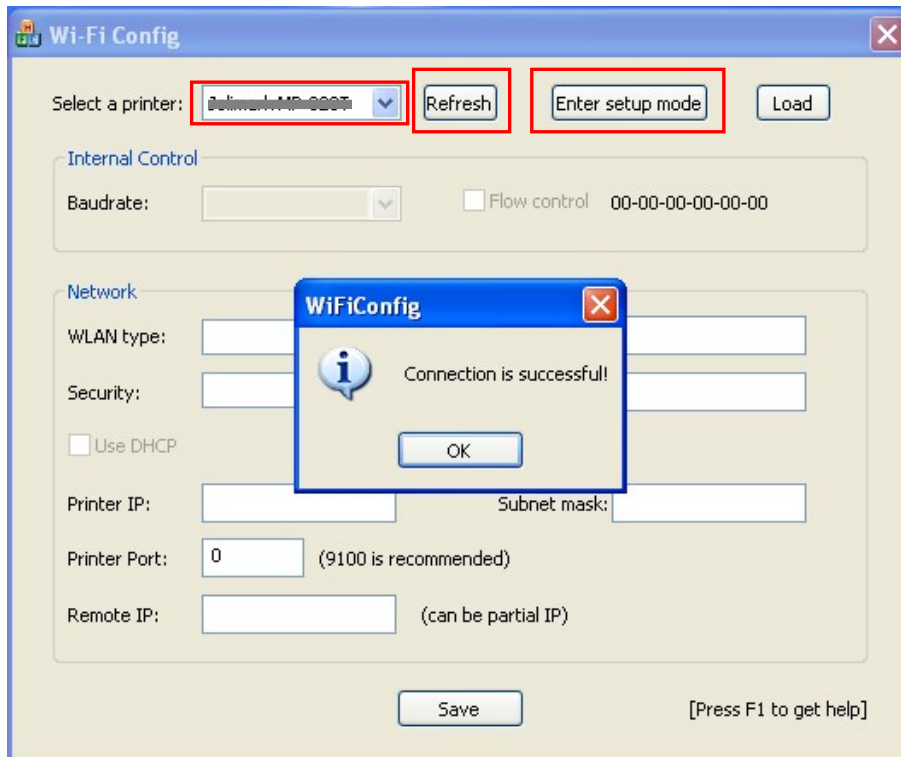

Figure 2
2. Click "Enter setup mode", then a figure of software as figure 2 pops up. The printer and computer is connected successfully when the dialogue box "Connection is successful" appears. Click "OK".